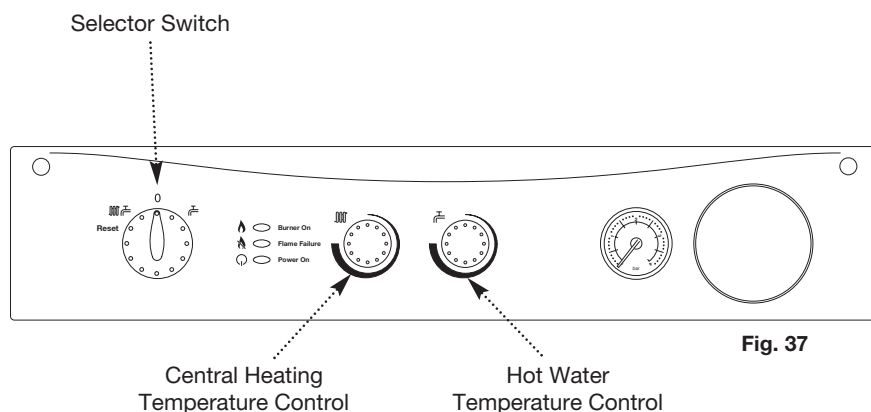

Fig. 37
2. Set the hot water and central heating temperature controls to maximum and the selector switch to the OFF position (Fig. 37).
6. Turn the selector switch to the Cental Heating and Domestic Hot Water position (OFF). The power ON light (ON) will illuminate (Fig. 37).